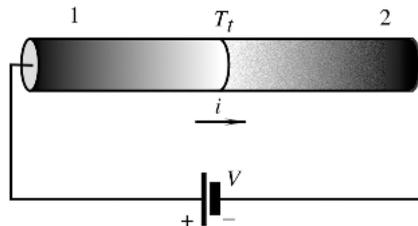

Figure 3: Peltier effect in single junction.
- (5p) (e) Figure 3 shows a single junction of two different materials. Explain (in maximally 200 words) why the Peltier effect results in the production or liberation of energy at a junction when a current is passed through this junction.